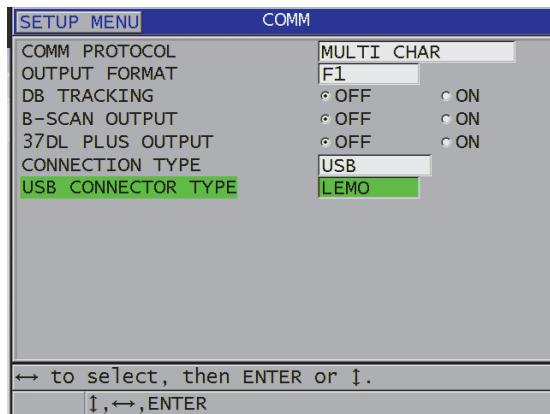

Figure 9-3 Changing the communication parameters
3. In the **COMM** screen (see Figure 9-3 on page 150):